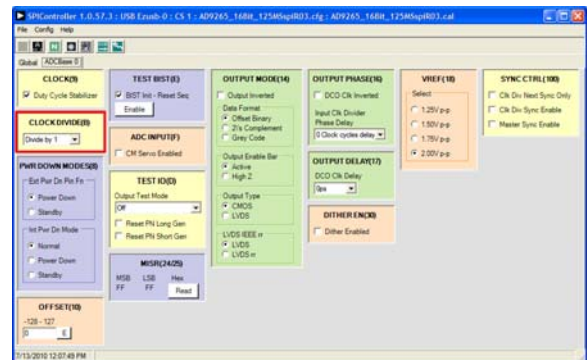

Figure 10. SPIController, CLOCK DIVIDE(B) Box
3. In the **ADCBASE 0** tab of the **SPIController** window, find the **CLOCK DIVIDE(B)** box (see Figure 10). If using the clock divider, use the drop-down box to select the correct clock divide ratio, if necessary. See the appropriate part data sheet; the **AN-878** Application Note, *High Speed ADC SPI Control Software*; and the **AN-877** Application Note, *Interfacing to High Speed ADCs via SPI*, for additional information.
- Note that other settings can be changed on the **ADCBASE 0** tab (see Figure 10). See the appropriate part data sheet; the AN-878 Application Note, High Speed ADC SPI Control Software; and the AN-877 Application Note, Interfacing to High Speed ADCs via SPI, for additional information on the available settings.